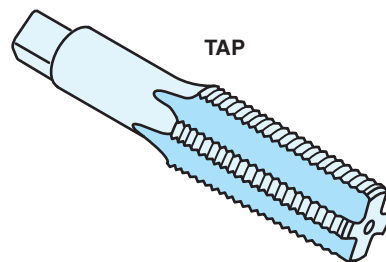

FIGURE 3-9 A typical bottoming tap used to create threads in holes that are not open, but stop in a casting, such as an engine block.
- **Bottoming tap.** This tap has a flat bottom instead of a tapered tip to allow it to cut threads to the bottom of a drilled hole. See Figure 3-9.